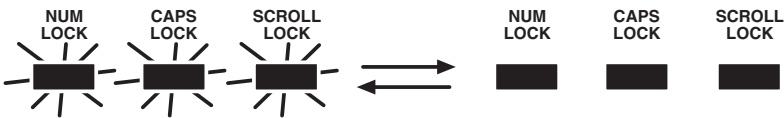

Figure 5-2. The control-lockout LED pattern.
- Control-lockout indication—unison flashing.** As shown in Figure 5-2, the Extender flashes all three keyboard LEDs at the same time (all three ON, then all three OFF, repeating indefinitely) to show that user station directly attached to user port #1 of the Duo has keyboard and mouse control of port #1. Once the Duo's inactivity timeout expires (see the "User timeout" section of your Duo manual) so that the Extender's user can take control of the CPU, these LEDs will stop flashing and return to their previous states.
The user station at the ServSwitch Duo Extender contends with the user stations directly attached to the Duo system for keyboard and mouse control of the Duo system's CPUs. While a user at one station is in control of a CPU, the Duo system won't accept keyboard or mouse data for that CPU. If the Extender's user station is "locked out" in this way, its keyboard's Num Lock, Caps Lock, and Scroll Lock LEDs will flash in unison (as shown in Figure 5-2 in **Section 5.3**) to show the user at that station that he or she will have to wait to access the Duo-system CPU until the other station is finished.